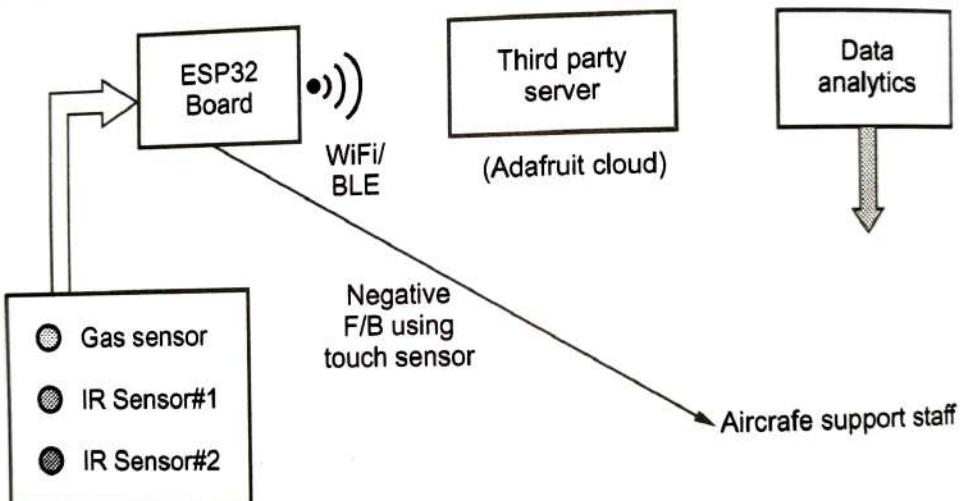

Fig. 5.3.1 Lavatory cleanliness monitoring system
- Fig. 5.3.1 shows lavatory cleanliness monitoring system